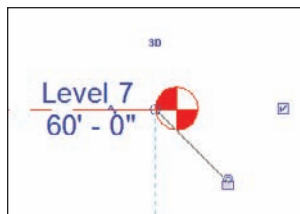

FIGURE 3.9 The selected level
2. Select Level 7 by picking (left-clicking) on either the text or the actual level line itself. This will put the focus on the level line. Notice the text that turns blue. We know that any blue item can be modified (see Figure 3.9).